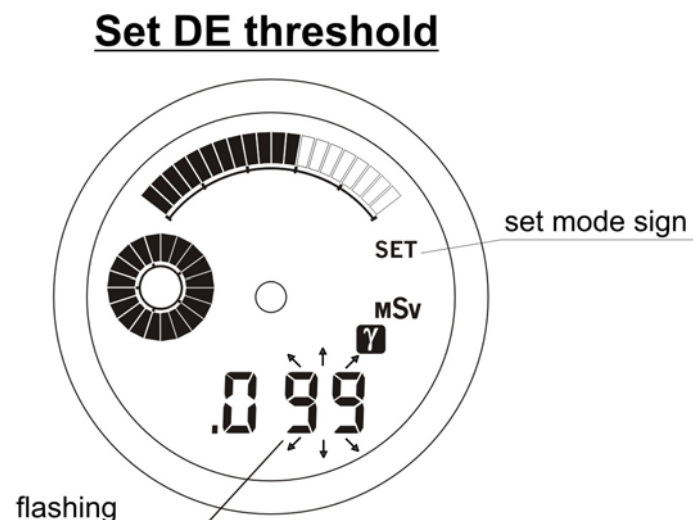

Fig.3.10
3.2.6.4 To set the DE threshold enter the DE indication mode according to clause 3.2.2. Long pressing of button 2 (SET) switches on the indication of preset DE threshold on LCD; the two digits (hundredths and thousandths of mSv) will be flashing, the set mode sign **SET** will appear and the filled in circular analogue scale will be indicated (Fig. 3.10).